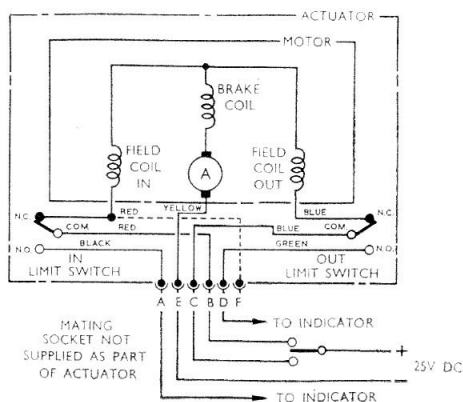

Fig. 4. Circuit diagram
15. The internal connections and a typical external circuit are shown in *Fig. 4*.